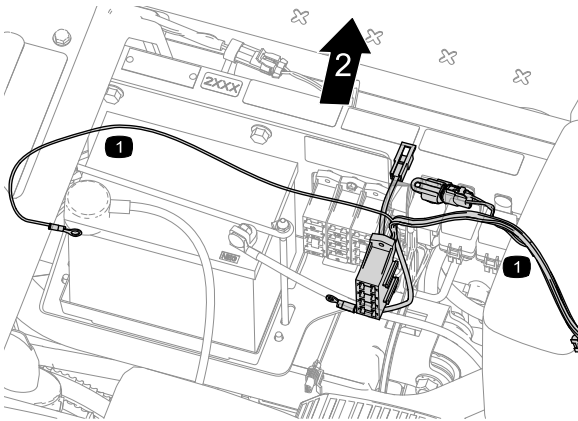

Figure 6
1. Route the wire harness under the seat (Figure 6).